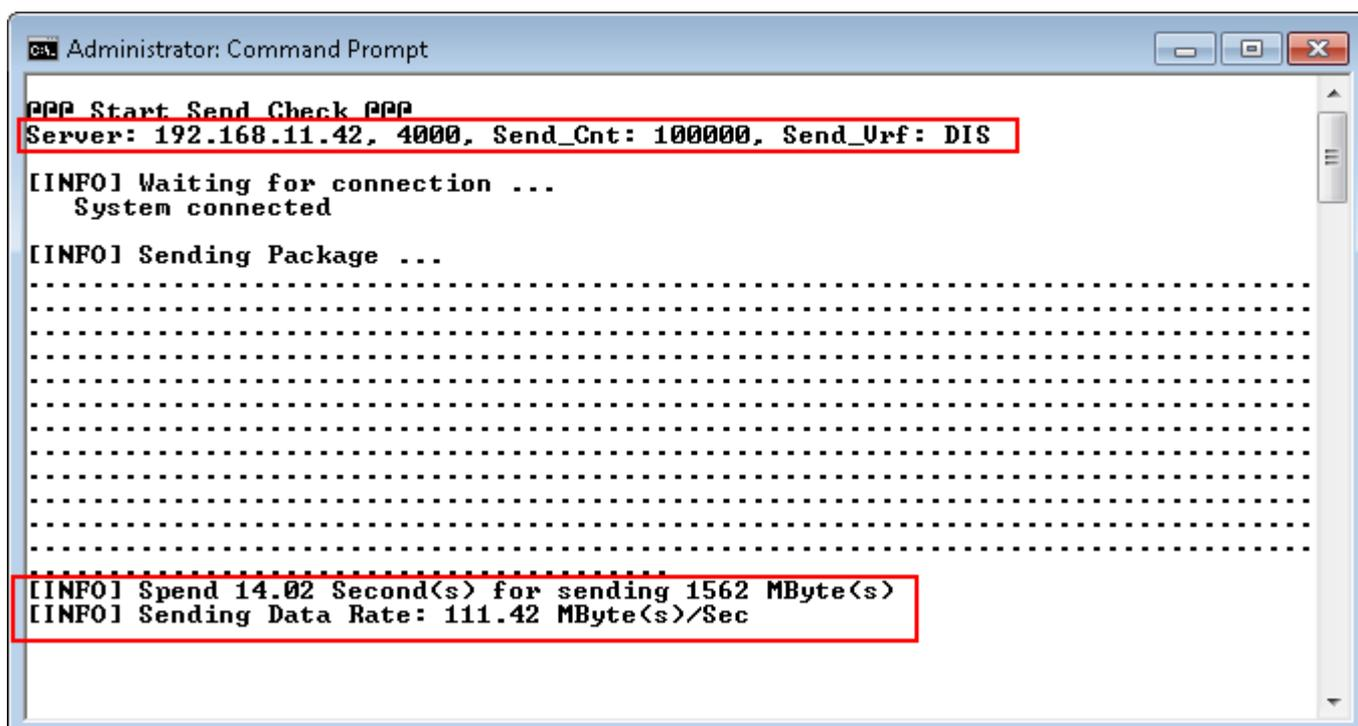

Figure 4-10 Receiving Demo on Performance test mode
- Test application displays “...” during transferring packet. Time usage with performance will be displayed when complete data transfer, as shown in Figure 4-10.